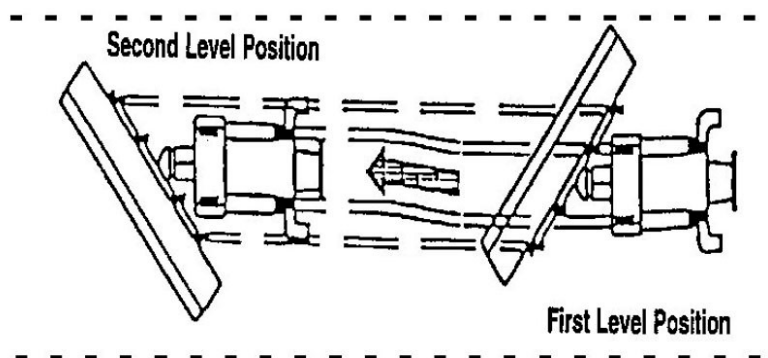

Figure 3-36. Stabilizer bar adjustment.
To ensure that the stabilizer bar is adjusted correctly, angle the broom completely in one direction, ensuring the caster wheels are in the trailing position, and create a brush pattern by lowering the rotating broom to the ground. Raise the broom and angle it to the opposite direction (fig. 3-36).
1. Fully angle brush head left or right, as shown in figure 3-36.